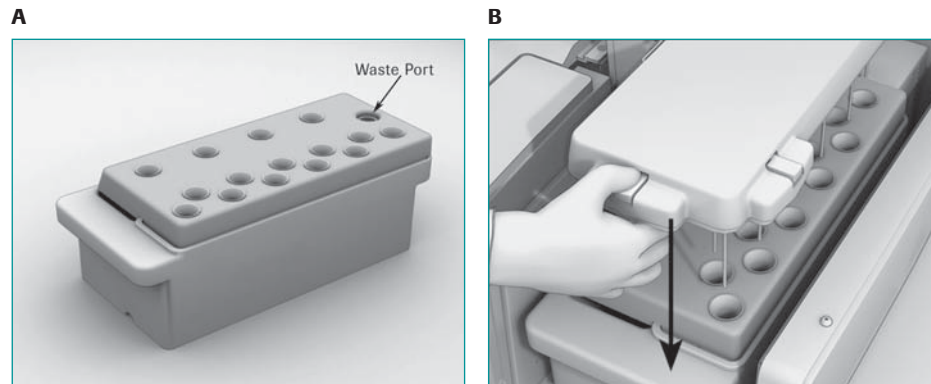

Figure 5: The Pre-wash cassette; loading before a pre-wash
- ▶ Prepare the pre-wash cassette by placing the GS FLX Pre-wash Tube Holder on top of the Reagents cassette and by inserting 11 small tubes and 4 large tubes in the cassette. Fill all the tubes with Pre-wash Buffer and slide the cassette in the instrument, lower the manifold and close the fluidics door (Figure 5).